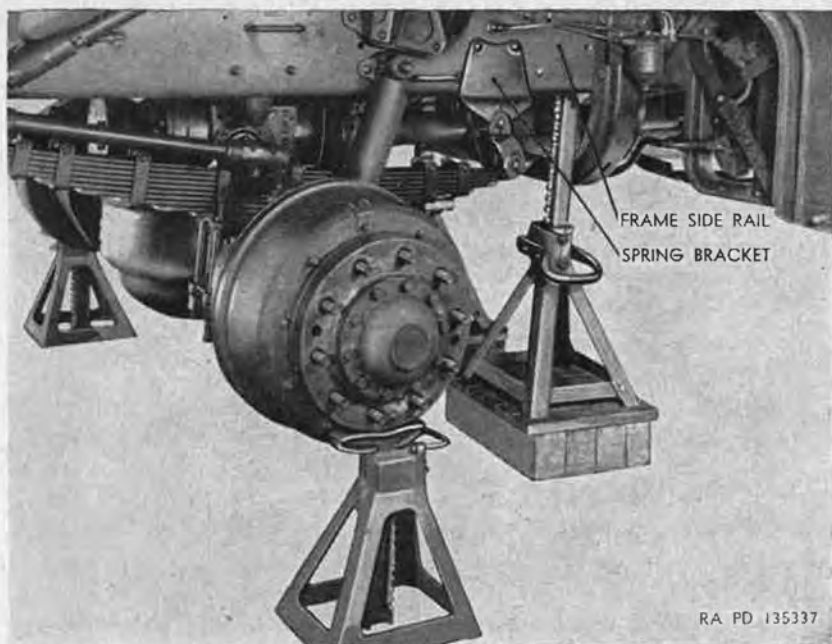
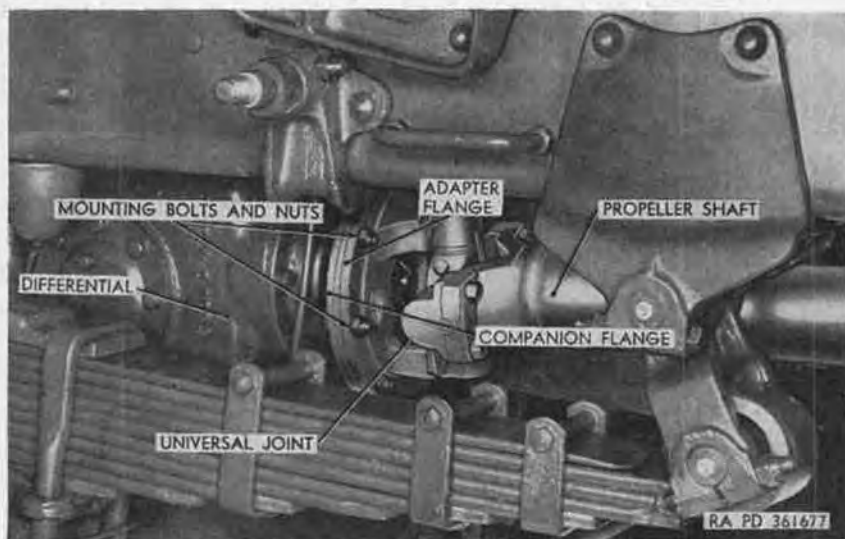

Figure 222. Truck support stands positioned for front axle removal.
Figure 223. Disconnecting transfer-to-front-axle propeller shaft.
- (2) *Remove wheel and tire assemblies.* Remove left and right front wheel and tire assemblies (par. 241). Place a support stand under left and right front hubs (fig. 222), and remove floor jack from under differential housing.
- (3) *Remove shock absorbers.* Remove left and right front shock absorbers (par. 252a(4)).
- (4) *Disconnect drag link.* Disconnect lower drag link from steering arm ball (par. 249c).
- (5) *Disconnect propeller shaft* (fig. 223). Disconnect adapter flange on front end of transfer-to-front-axle propeller shaft from companion flange at rear of front-axle differential. Refer to paragraph 211.
- (3) *Connect propeller shaft* (fig. 223). Connect adapter flange on front end of transfer-to-front-axle propeller shaft to companion flange at rear of front axle differential. Refer to paragraph 211.
- (4) *Install U-bolt clamp plates.* Raise front axle sufficiently to permit placing support stands under front wheel hubs, and place stands in position (fig. 222).